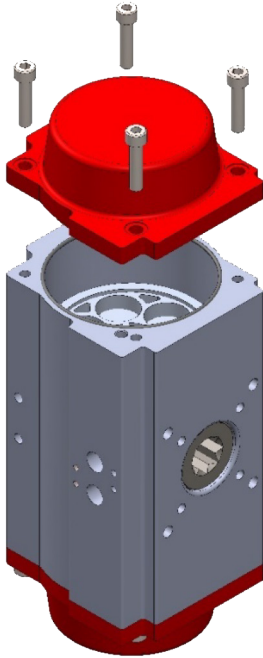

Figure 9: DA End Cap Removal
1. Loosen and remove the end cap bolts evenly on both end caps. See figure 9.